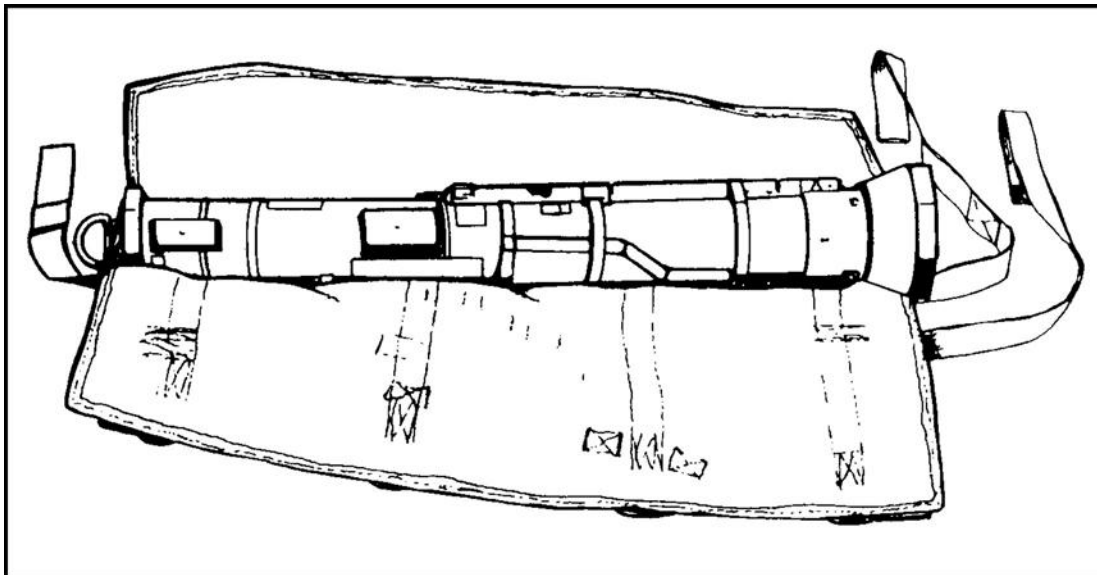

Figure 12-48. AT4 weapon round positioned.
(1) Position the weapon round on the pack with the carrying sling facing down, the launcher forward (small) end fitted into the forward end securing strap, and the launcher aft (large) end centered on the middle launcher aft end securing strap (Figure 12-48, page 12-48).
(2) Ensure that the launcher forward (small) end fits snugly into the nonadjustable cross D-ring strap.
(3) Fold the portion of the pack that has the rifle muzzle and butt stow pockets attached over the weapon round.